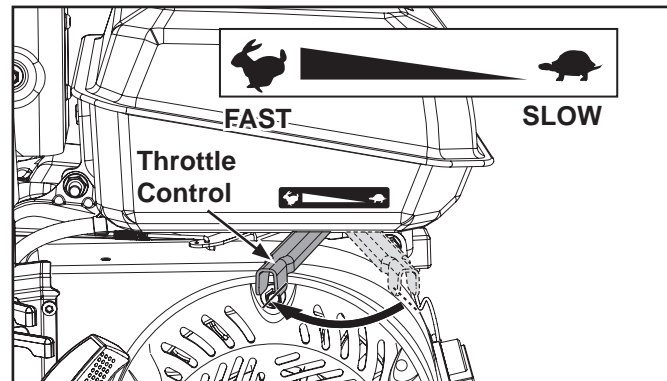
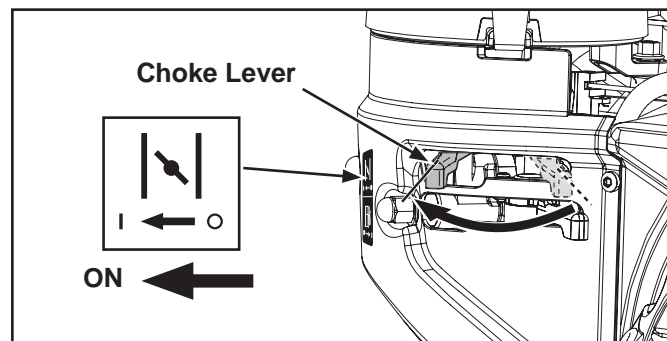

Figure 6. "Fast" Position of Throttle Control.
Figure 7. "On" Position of Choke Lever.
2. For a Cold Engine – Place the throttle control midway between the "SLOW" and "FAST" positions. See Figure 6. Place the choke control into the "on" position. See Figure 7.
For a Warm Engine (normal operating temperatures) – Place the throttle control midway between the "SLOW" and "FAST" positions. See Figure 6. A warm engine usually does not require the choke on.